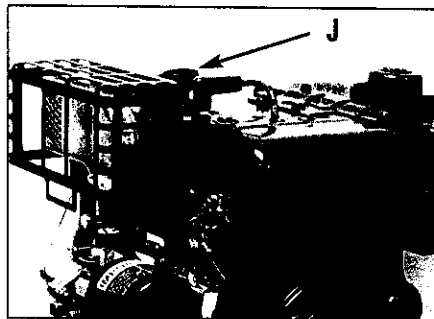

Figure 3-8: Add motor oil to the engine using the oil fill tube (J).
3. Unscrew the engine oil dipstick (J, Figure 3-8) from the oil fill tube. Using a clean funnel, slowly add oil into the oil fill tube until the oil level reaches the FULL mark reading on the oil dipstick. While adding oil, check the level several times with